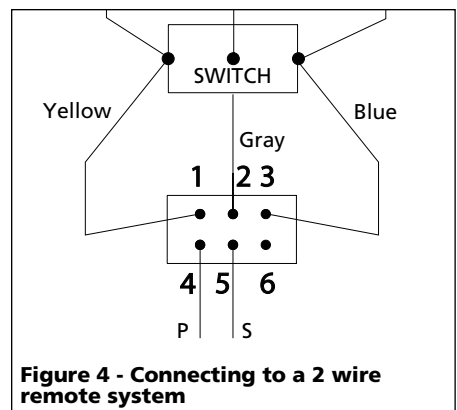

Figure 4 - Connecting to a 2 wire remote system
3. See figure 4 for wiring diagram of 2 wire remote system